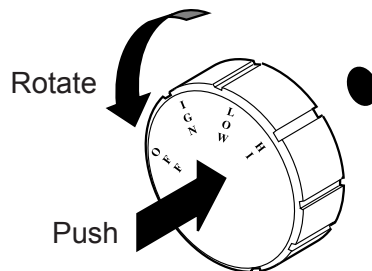

Figure 30 - HIGH Position
10. Push in control knob and turn to desired setting (LOW or HIGH). The control knob must be set at either the low or high position, and the control knob will pop out when positioned correctly. Do not set the control knob at a position between LOW and HIGH. See Figures 30 and 31.